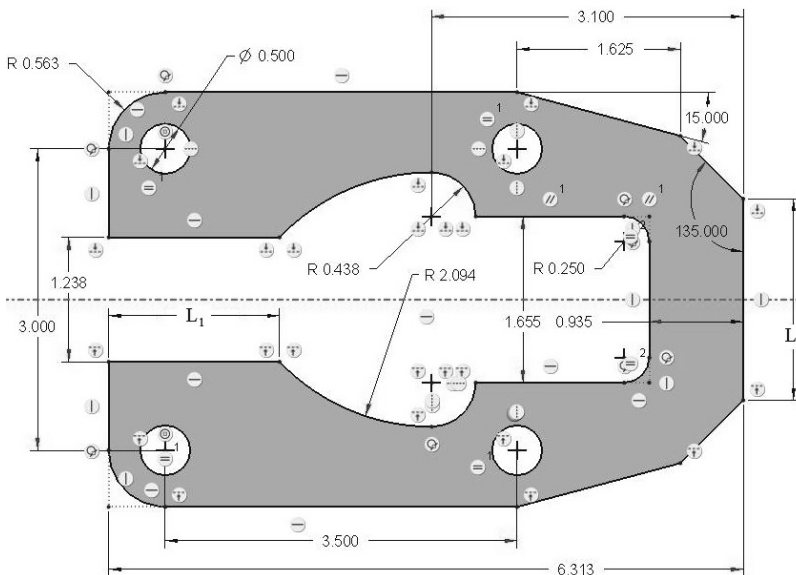

Figure 3-71 Problem 2—Latch Plate
- 3.2 Draw "latch_plate" (Figure 3-71). **Design Intent**—The plate must be symmetrical about a horizontal centerline (drawn 1st). The four holes must be located at the corners of a 3.000-inch by 3.500-inch imaginary box. Note that the beginning of the 15° line is directly below or above the center of the small circles. What is the length of the far right vertical line L_2 and the horizontal line L_1 ? The two arc centers are also 1.655 inches apart. (>File>Options>Sketcher, change to 3-decimal places before sketching.)